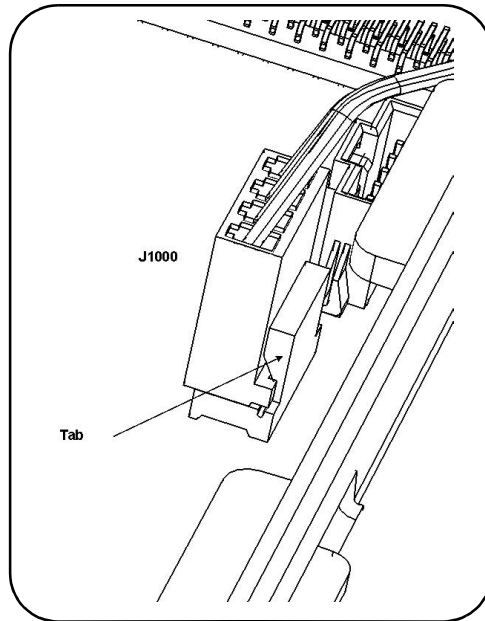

Figure 4. Connector Locking Tab
1. Using a medium slot-head screwdriver, gently push back the 4-pin connector lock tab on the motherboard end of the jumper cable that connects between the Motherboard (J1000) and the PowerSupply board (J2). Refer to Figures 4 and 5.